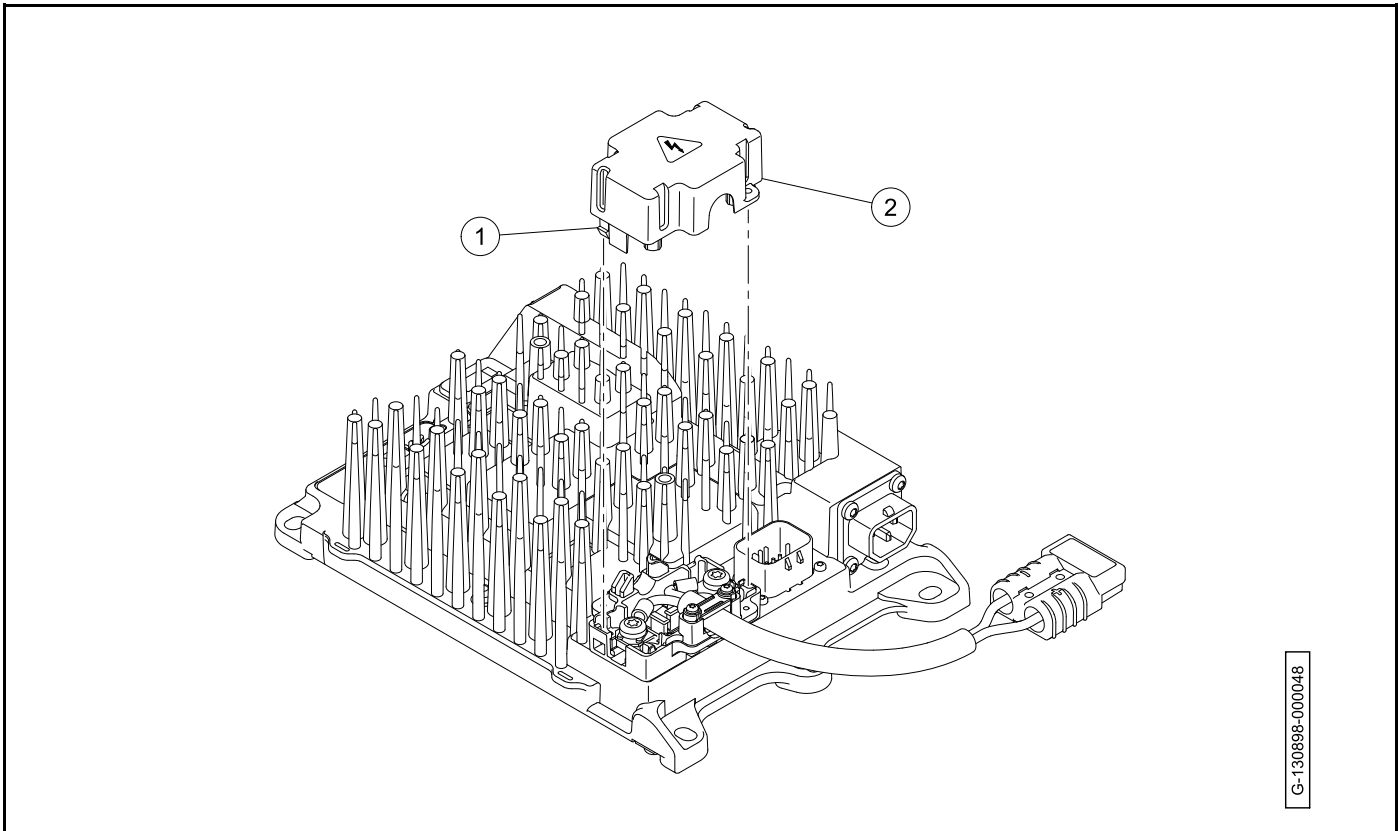

Figure 15-49 Onboard Charger Terminal Block Cover
3. Push the tabs (1) in and remove the terminal block cover (2) (Figure 15-49, Page 15-52).
1. Install the terminal block cover (2) onto the terminal block (Figure 15-49, Page 15-52).
2. Push down until the tabs (1) lock into place.